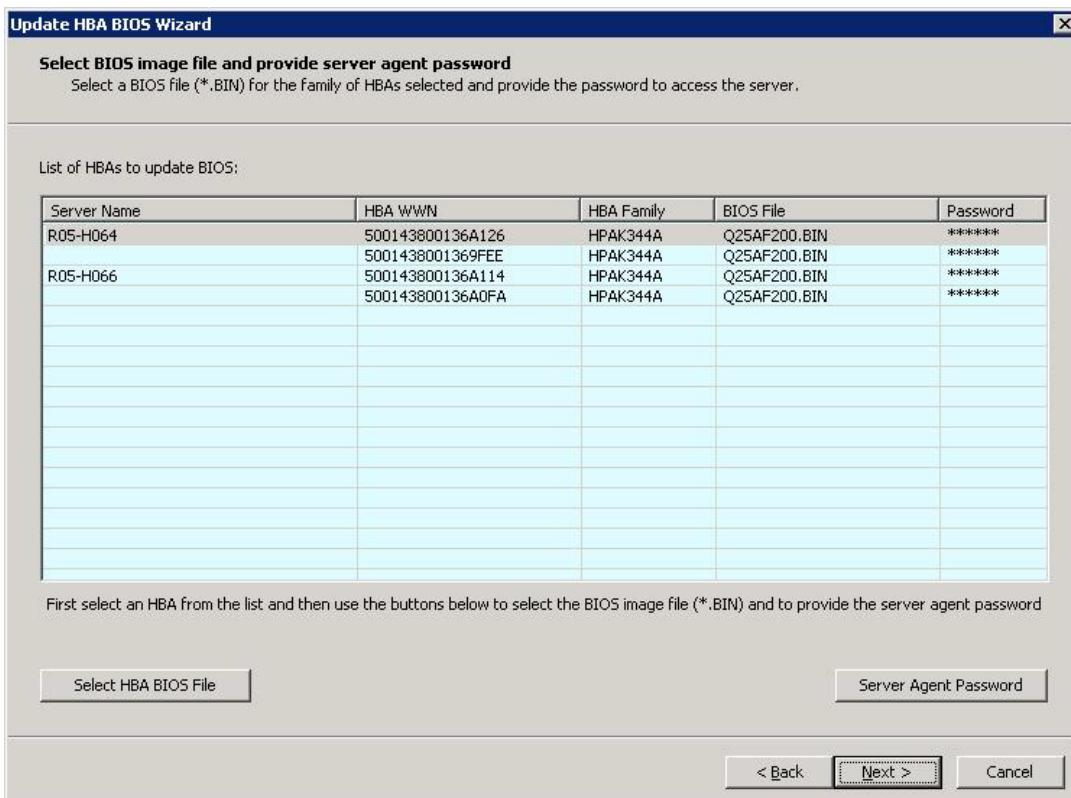

Figure 45 Update HBA BIOS wizard
11. In the Update HBA BIOS wizard (Figure 45), click **Next**.